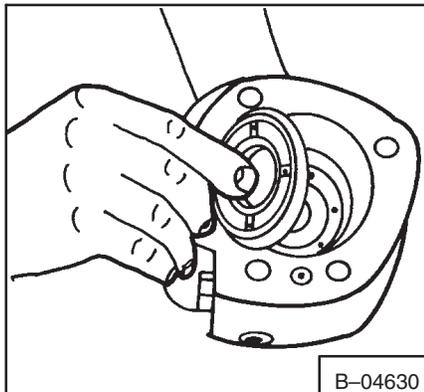

Fig. 3-76 Installing Balance Plate
30. Install the balance plate assembly on the springs (Fig. 3-76).